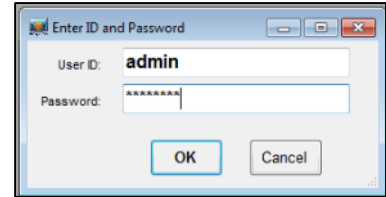

Figure 10. Login Dialogue Box.
- b. Complete the login dialogue box (Figure 10) with appropriate Operator ID and Password.